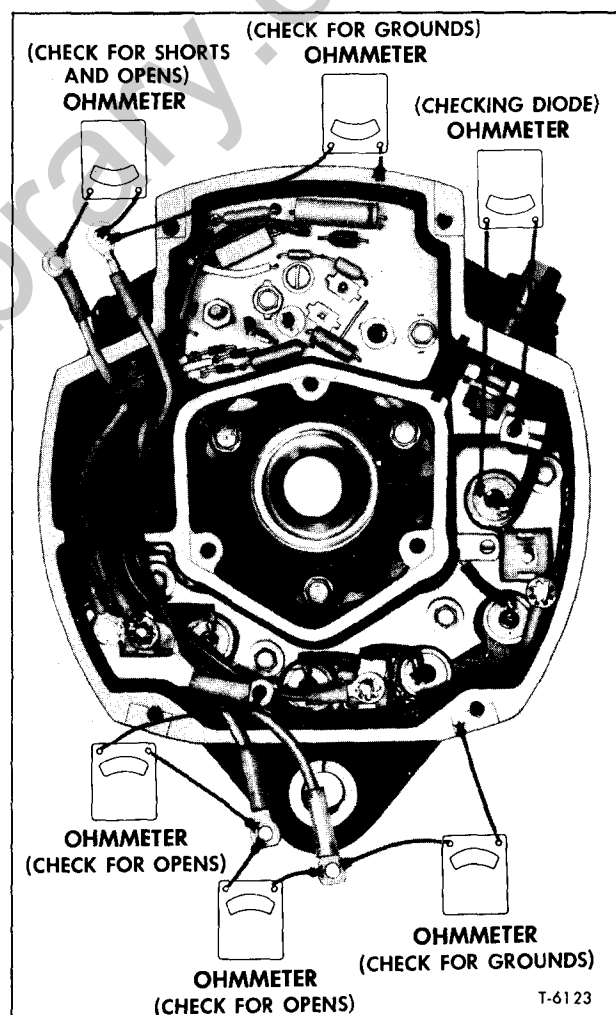

Figure 8—Electrical Checks (Typical)
1. Field Coil Checks (Fig. 8)
2. Diode and Stator Checks (Fig. 8)
REGULATOR REPLACEMENT (Fig. 8)